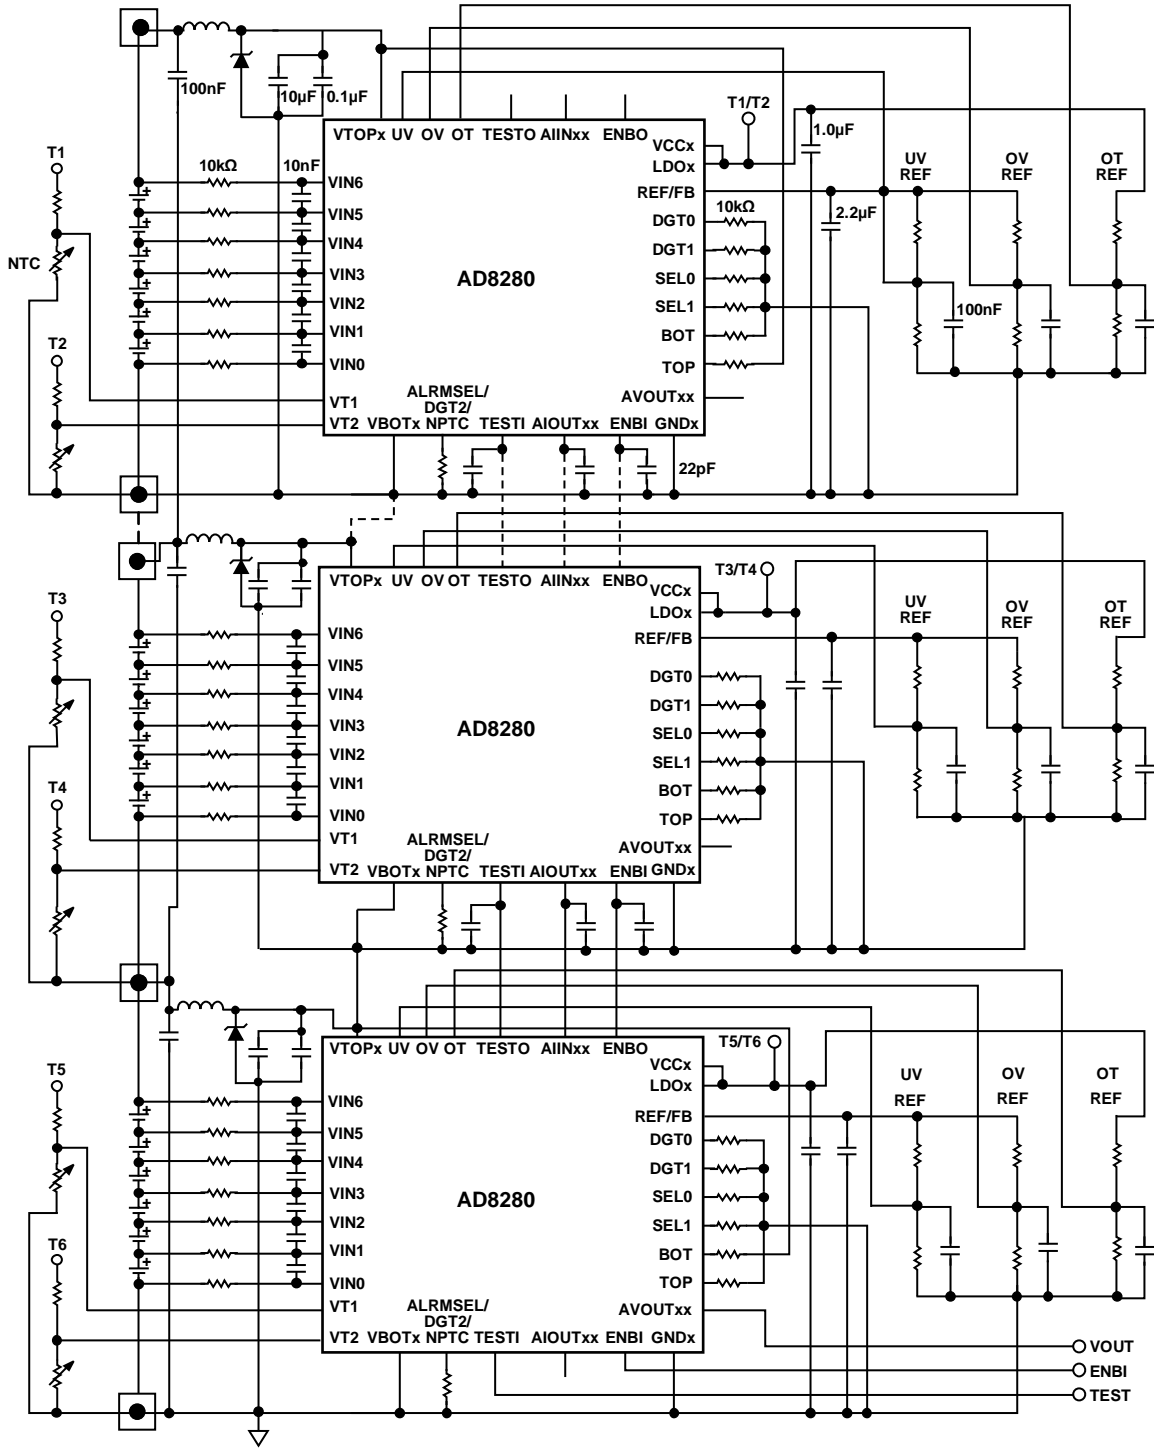

Figure 49. Typical Daisy-Chain Connections
Figure 49 shows the typical connections for configuring the part in a daisy chain.
To increase immunity to electromagnetic interference (EMI), use the following components and layout schemes (see Figure 49).
- Use ferrite beads on the VTOP lines as shown in Figure 49.